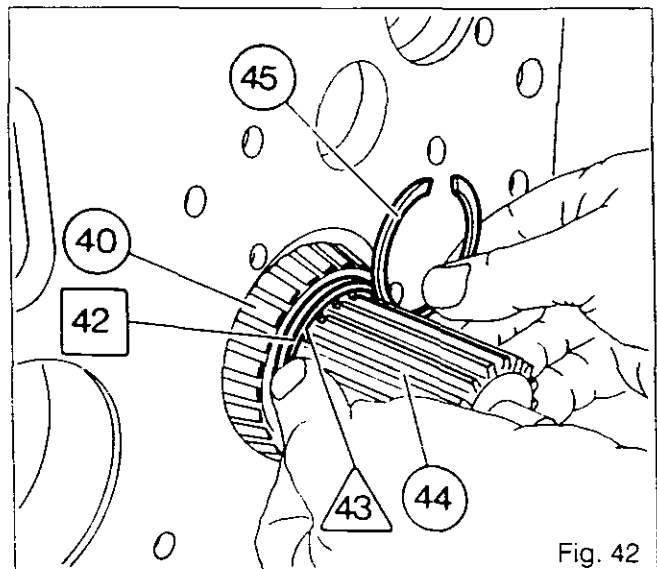

Fig. 42
Take up the clearance Y between the rear of cone (40) and the groove for the circlip (45) with shim adjuster [42] and spacer /43\'. Select a new circlip of a size that fits snugly into the groove (Fig.42).